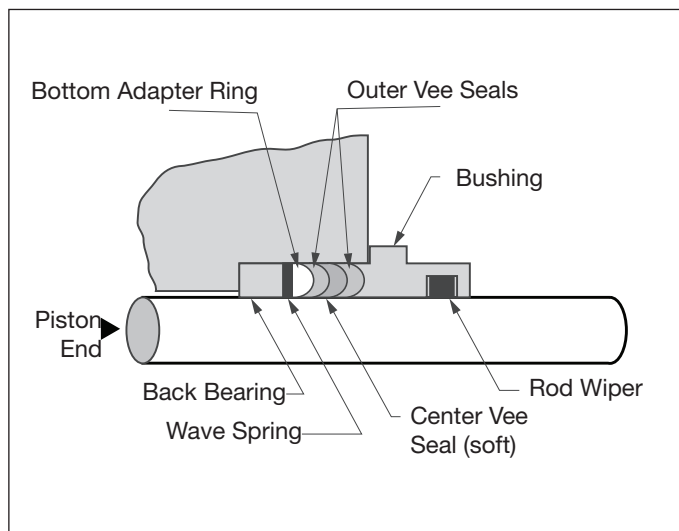

Figure 2 - Rod Seal Arrangement
Note 2: Item 13 includes two outer vee seals, one center "soft" vee seal and one bottom adapter ring. See Fig. 2 for details.
Replace the cylinder rod seal and wiper as described in the following steps. Refer to Figure 2.
6. Assemble the new vee seals into the cavity. Coat each seal with oil or grease as installed. Be sure that the “soft” vee is positioned in the center, between the two outer vee seals. See Figure 2.